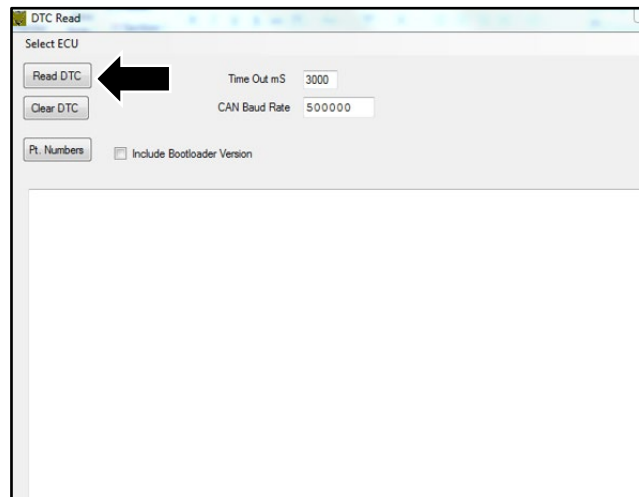

Figure 14
19. Select "Read DTC" (refer to Figure 14).